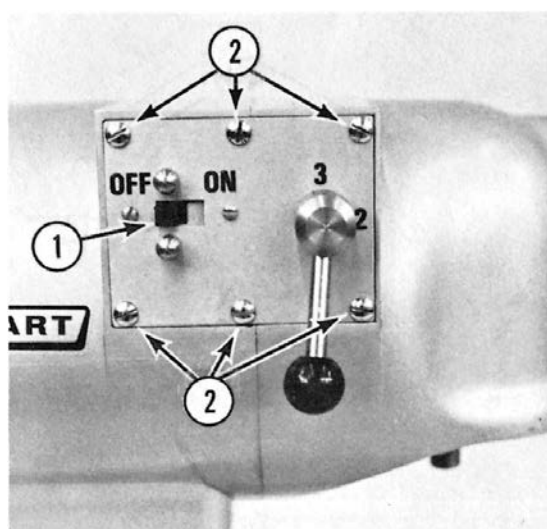

Fig. 6-1
OFF-ON Switch (1, Fig. 6-1).
- A. Remove the six switch plate mounting screws (2, Fig. 6-1) and take off the switch unit.
- C. Remove the two switch mounting screws (3, Fig. 6-1) and remove the switch.